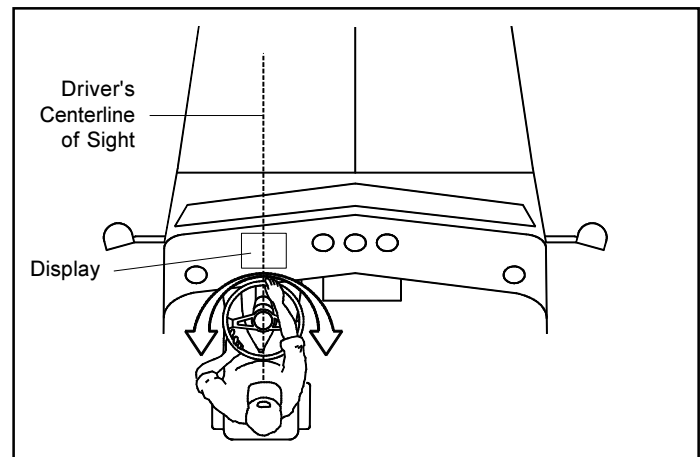

Figure 11 Driver's Centerline of Sight
4. Establish the driver's centerline of sight. See Figure 11.
3. Determine the driver's centerline of sight. Refer to Figure 11 on Page 4.
**NOTE:** The centerlines of the driver and the display should line up. Refer to figure 11 on page 4.